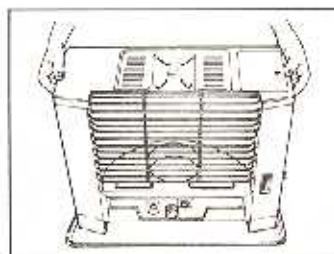

Fig. 14
- (5) Slant the body forward and lift upward to clear the wick control shaft through the hole in the panel (Fig. 14).